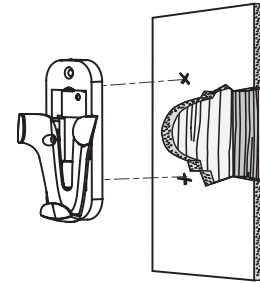

Figure 9c
2. Orient the remote cradle as shown in Figure 9c, over the 2x4 stud.